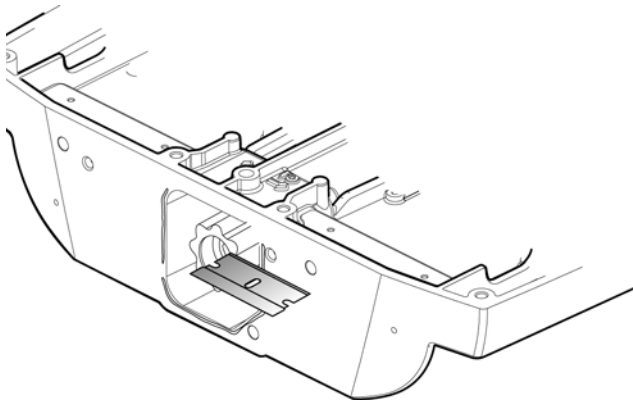

Figure 8-3: Remove RTV Sealant from Chassis Mating Surface
3. If RTV silicone sealant is present on chassis, use razor blade or utility knife blade (set at 90-degree angle to the chassis surface) to carefully and gently scrape away all RTV sealant residue from chassis mating surface. Do not scratch machined surface. Always work in downward direction to prevent contaminants from falling into motor cavity. See Figure 8-3.